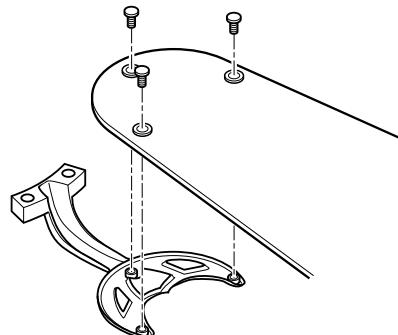

Figure 7b - Attaching Fan Blade to Blade Iron
2. Attach each blade to blade iron using three blade assembly screws as shown in Figure 7b. Some fans